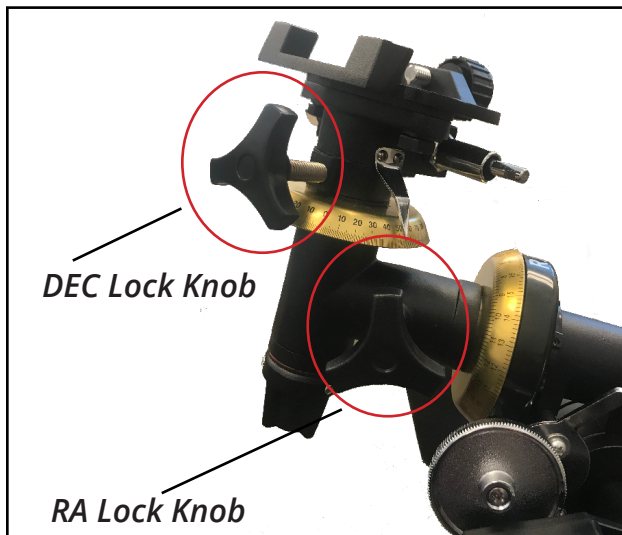

Figure 3.
4. Loosen "RA (Right Ascension) Lock Knob" (#17) and the "DEC (Declination) Lock Knob" (#19). The telescope should now move freely so that you can aim it at the Sun (*Figure 3.*)